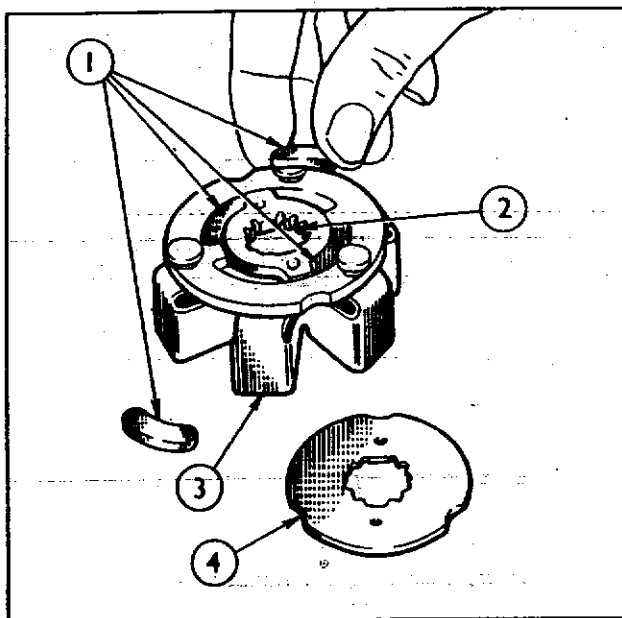

Fig. 83 1 Inserts 3 Weight Carrier
2. Assemble the cush drive. Locate the hub in the reverse side of the weight carrier, the reduced diameter being towards the weights and fit two inserts diametrically opposite to one another in the space between the hub and the retainer ring (see Fig. 83). Turn the hub until the ears are touching the inserts and fit the other two inserts. Align the scallops in the periphery of the back plate with the rivets and locate in position. Turn the plate until the master splines are in alignment with the splines in the hub.